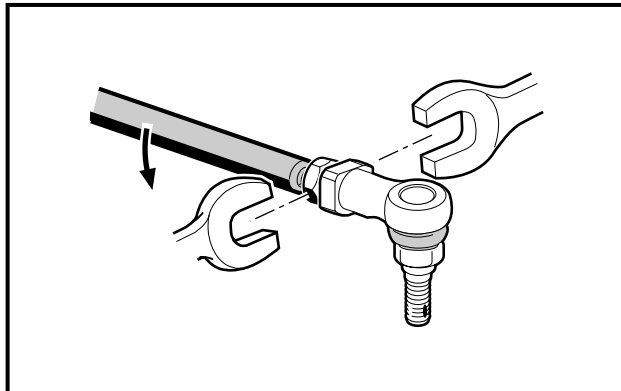

Figure 7-9 Ball Joint
1. Using the double-wrench method, remove the two ball joints and inspect them for excessive wear (**Figure 7-9, Page 7-9**).